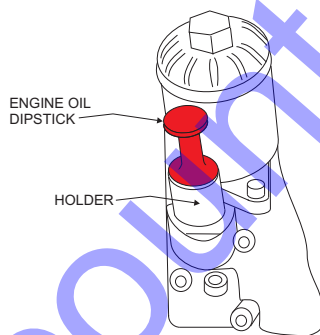

Figure 5. Oil Dipstick
2. Pull out the dipstick from the oil tank (Figure 5).